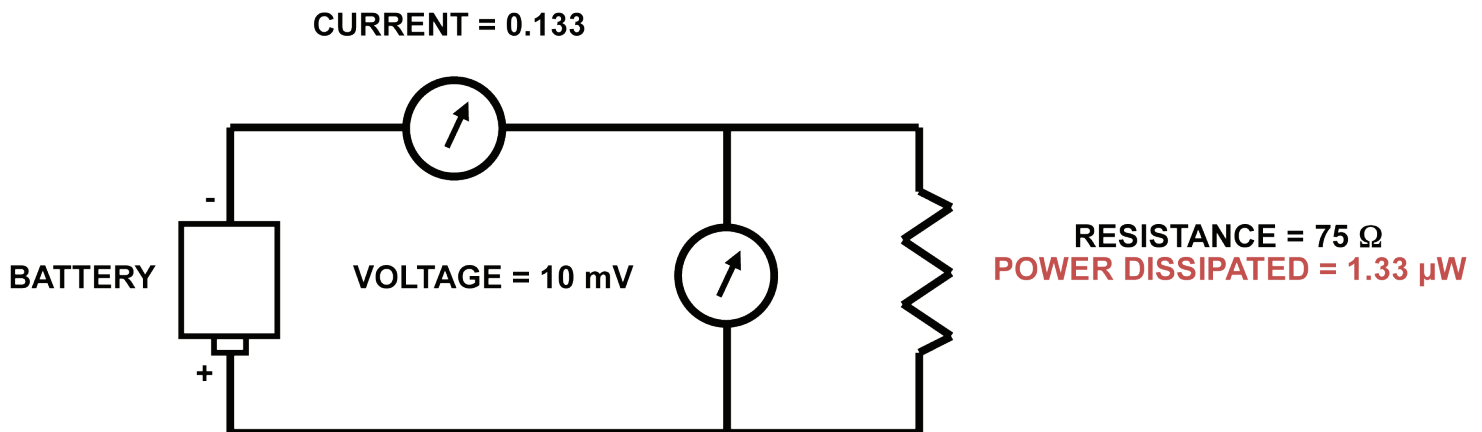

Figure 3. Calculating power in a DC circuit.
Power calculations and measurements in direct current (DC) circuits and applications are relatively straightforward. For example, if you have a 75-ohm resistor with an applied voltage of 10 millivolts, the power dissipated by the resistor is 1.33 microwatt ($P = E^2/R = 0.010^2/75 = 1.33 \times 10^{-6}$ watt or 1.33 μW), as shown in Figure 3.